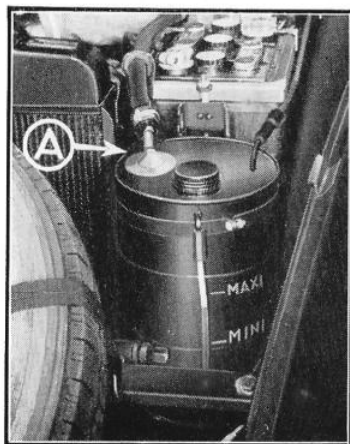

Figure 3
**Fluid for hydraulic suspension** : the height of the fluid in the tank situated to the left of the radiator and in front of the battery should be between the minimum and maximum marks on the transparent gauge (fig. 3). To read the level correctly, start the engine, let it idle and wait while the car (without occupants) becomes stabilised at its normal height. When it is necessary to top up the fluid, use only one of the following six fluids :